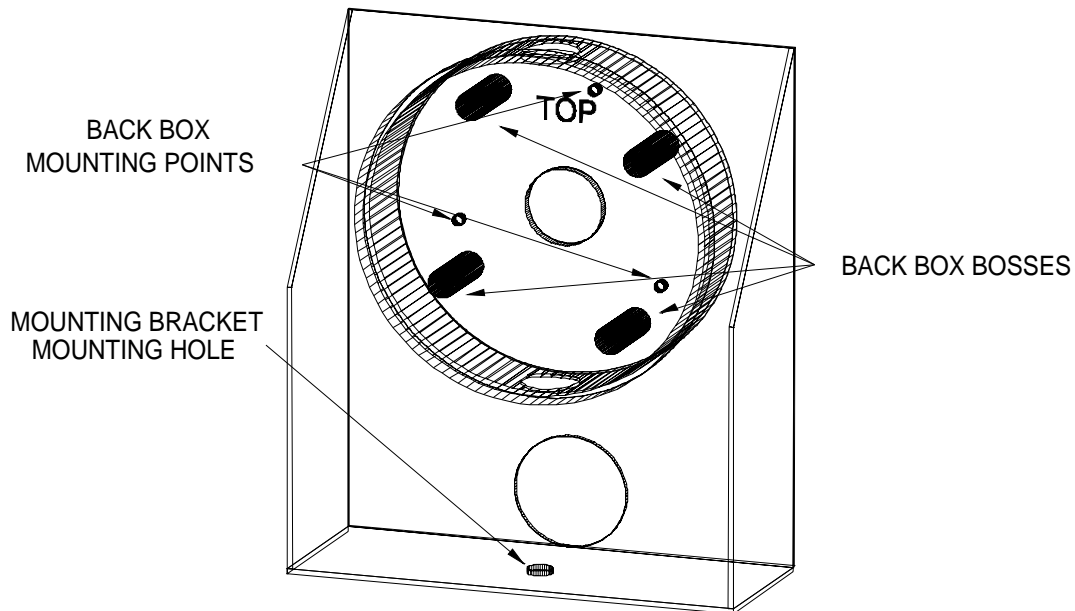

Figure 14 Back Box Mounting Points
8. Attach the weatherproof back box to the mounting bracket using the provided 6-32 x 5/8" screws and 6-32 gold nuts as shown in figure 14.